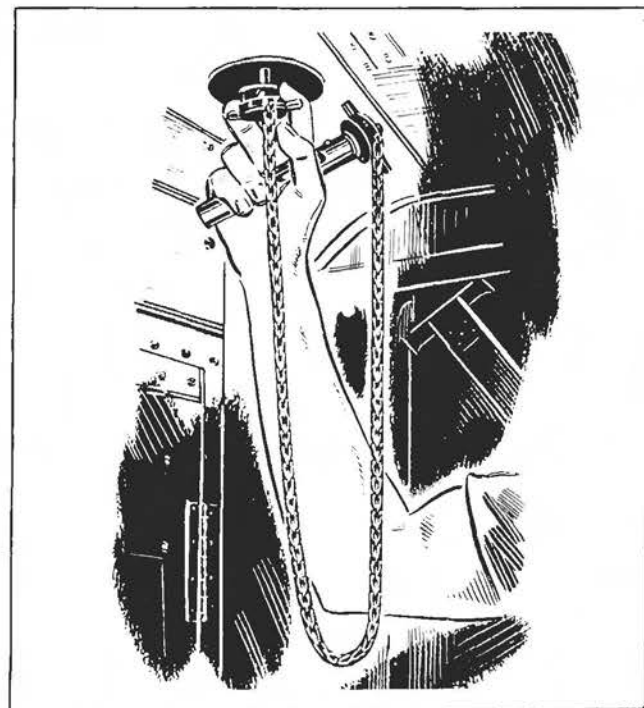

Figure 64—Locking Rudder
*b.* LOCKING RUDDER.—Take the rudder and elevator keys to the tail compartment. Open the rudder quadrant inspection door and line up the hole in the quadrant with the hole in the stabilizer rear spar lug. Push the rudder key through both holes until the snap spring engages. (See figure 64.)